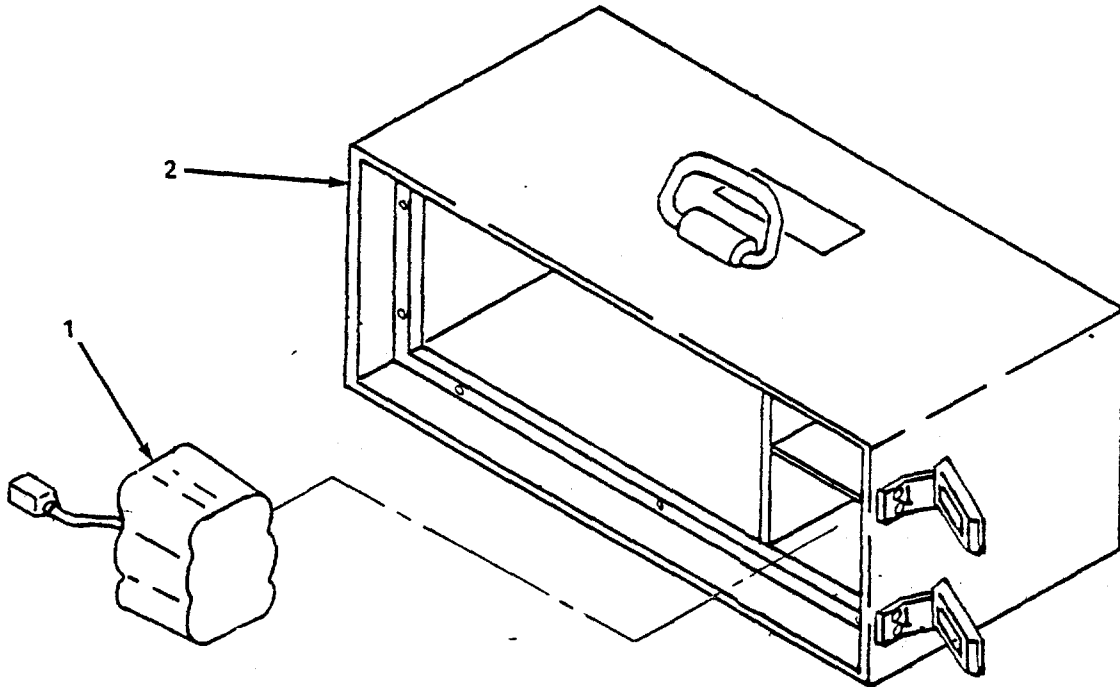

Figure 5-14. Battery Pack Assembly, Replace.
- (2) *Battery pack assembly.* (figure 5-14).
- (b) Remove battery pack (1) from communication box (2).
- (c) Install battery pack (1) in communication box (2).